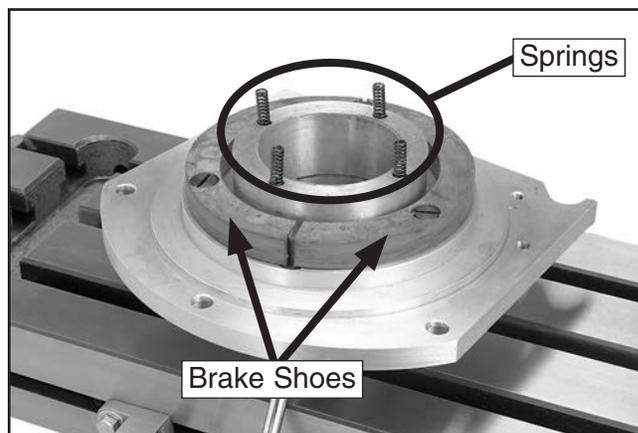

Figure 85. Brake shoes.
6. Remove the screws securing the brake shoes, and install the new brake shoes (see **Figure 85**).
7. Re-install the three screws and the four springs, as shown in **Figure 85**, and slide the pulley shaft into the transmission case cover plate.